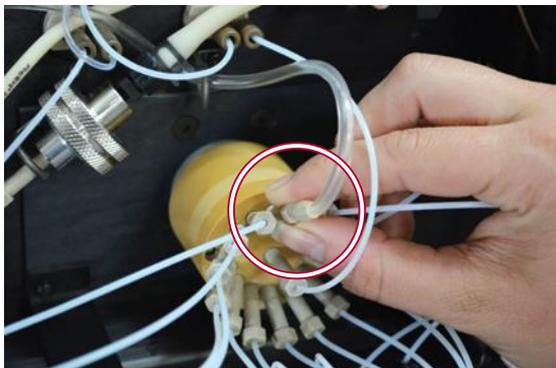

Figure 1. Disconnect the tan 10-32 nut from port 1 on the sample selection valve.
1. Remove the old backflush connection by removing the tan 10-32 nut from port 1 on the sample selection valve (**Figure 1**).